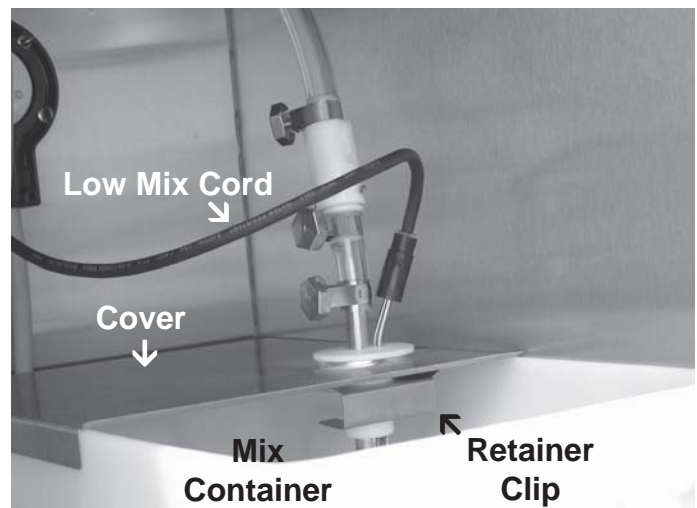

Figure 9. Mix Inlet Tube & Probe Assy. Clip
B. Connect 1/2 inch (12,7mm) I.D. plastic food grade tubing to mix check valve (Item 7) and then to the mix container. Observe check valve flow arrow. Secure with hose clamps. Then place assembly thru hole in cover and install retainer clip. See Figure 9.
C. Connect 1/2 inch (12,7mm) I.D. plastic food grade tubing between the large port of air/mix tee and refrigerated mix transfer line. Secure with large hose clamp or equivalent. See Figure 9.
D. Connect mix low cords. Figure 9.